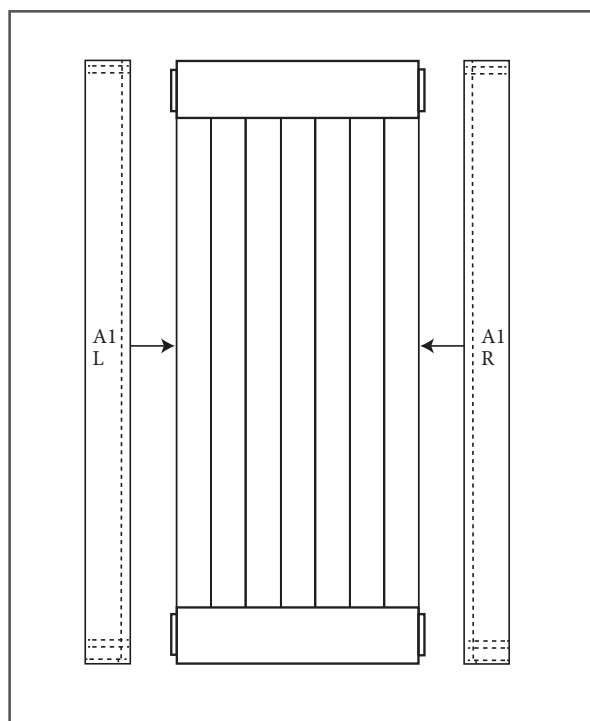

Figure 4
4. Place the left Stile (A1 L) beside the assembled slats and rails. Slide to the right to cover the rail tongues and the edge of the slat assembly. Tap the stile into place with a rubber mallet. Repeat with the right stile (A1 R) (Figure 4).